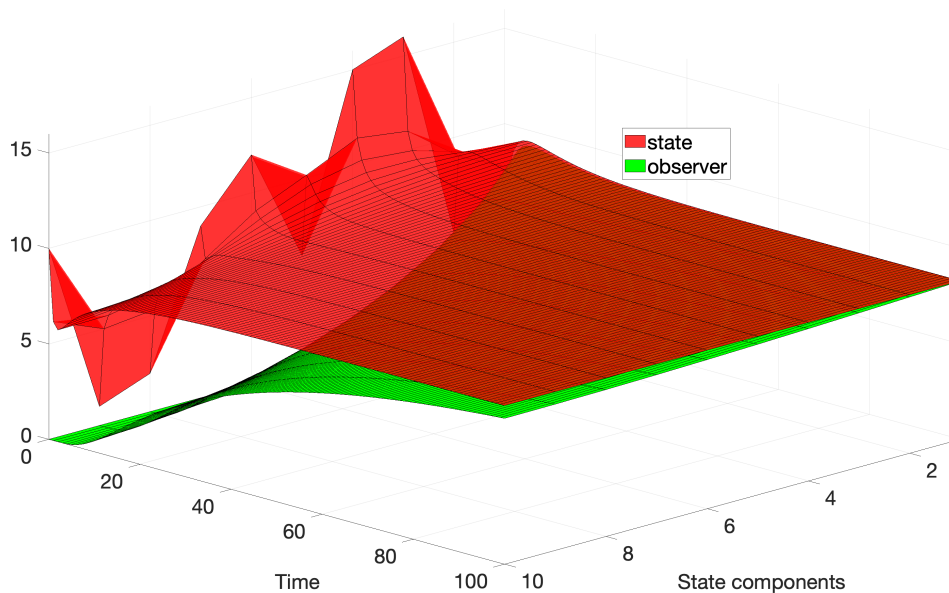

Figure 1: Evolution of the state of system (1) and an estimate.
- 1.3. Use a 'To Workspace' block to send the history of the system state to the work environment (feel free to 'decimate' to 100 not to have too many points). In a Matlab file, write a script to display this history similarly to what is displayed in figure 1 (you can use the commands `surface` and `view` for that).
- 1.5. Add the history of the state estimate into your Matlab script so that it is superposed to the history of the plant state (see figure 1).